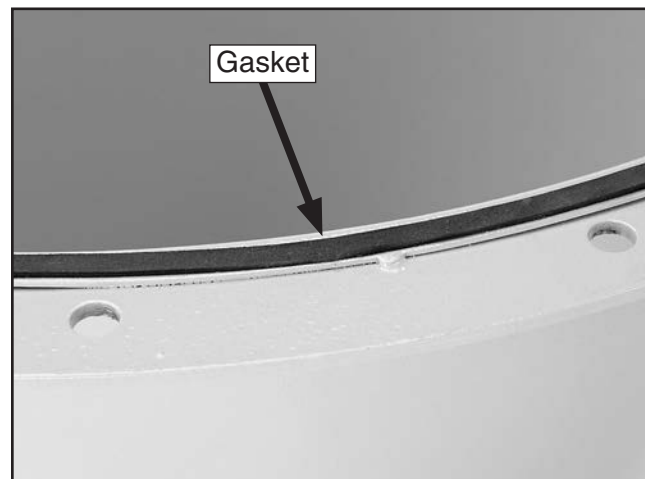

Figure 20. Gasket applied to the intake cylinder rim.
6. Place the intake cylinder on the floor and apply the 3 x 6 x 1800mm gasket to the intake cylinder top rim, between the mounting holes and the inside edge (see **Figure 20**).